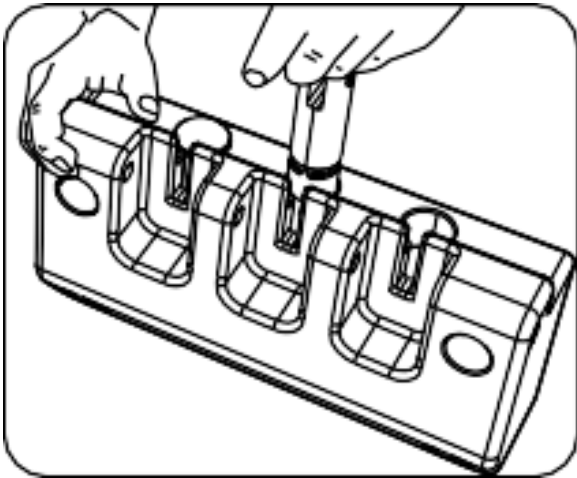

Figure 26
6. When the valve is inserted fully, turn it to face forward as shown in Figure 26 below.